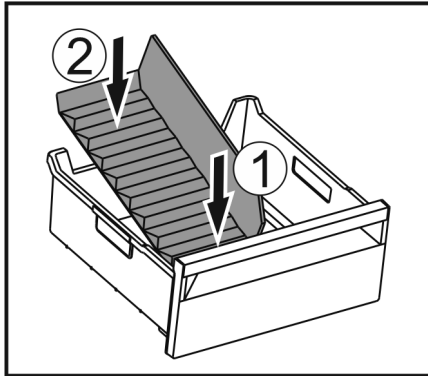

Fig. 160
- Insert the front part of the ice compartment divider. Fig. 160 (1)
- Lower the rear part of the ice compartment divider to the drawer bottom. Fig. 160 (2)